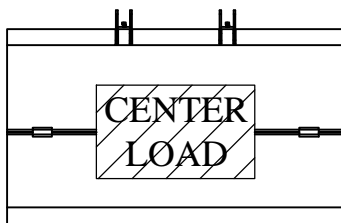

Figure 7: Step 12.
10. To load and use the liftgate, center the load on the platform side to side and front to back (Figure 7). Put heavier loads as close to the front of the platform (near truck) as possible. Platform cart stops may be actuated at this time, if equipped.